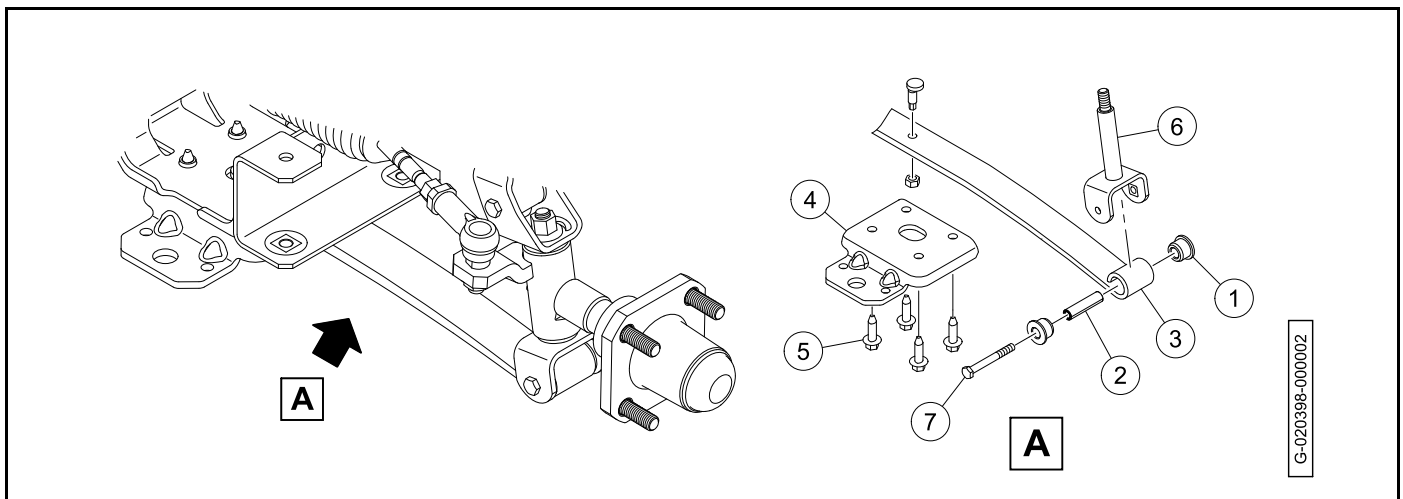

Figure 7-15
- Install the urethane bushings (1) and steel sleeves (2) into leaf spring eyes (Figure 7-15).